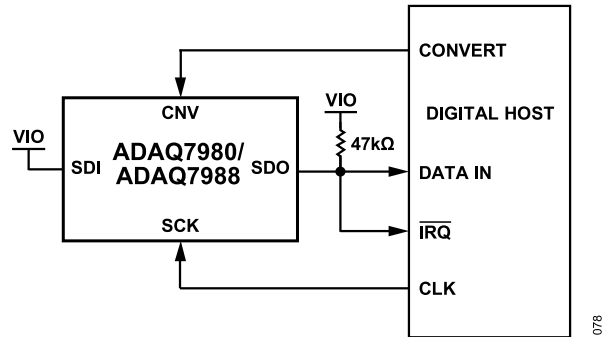
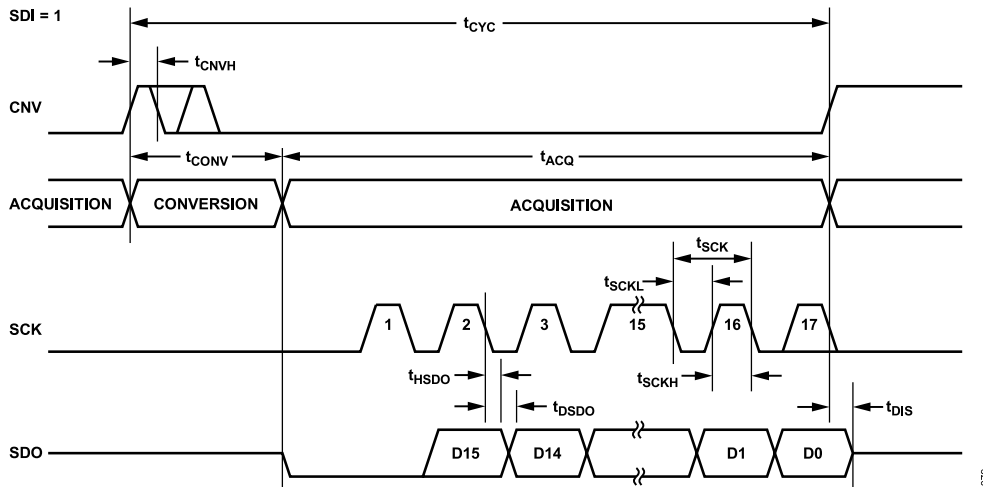
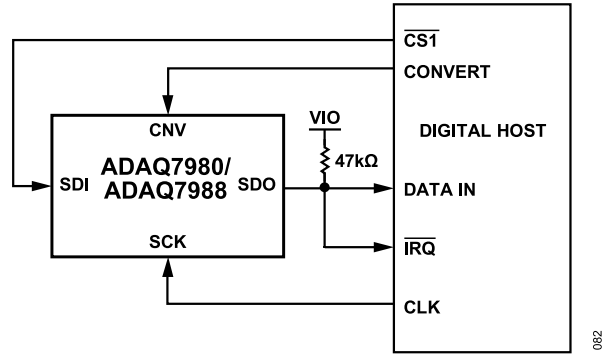
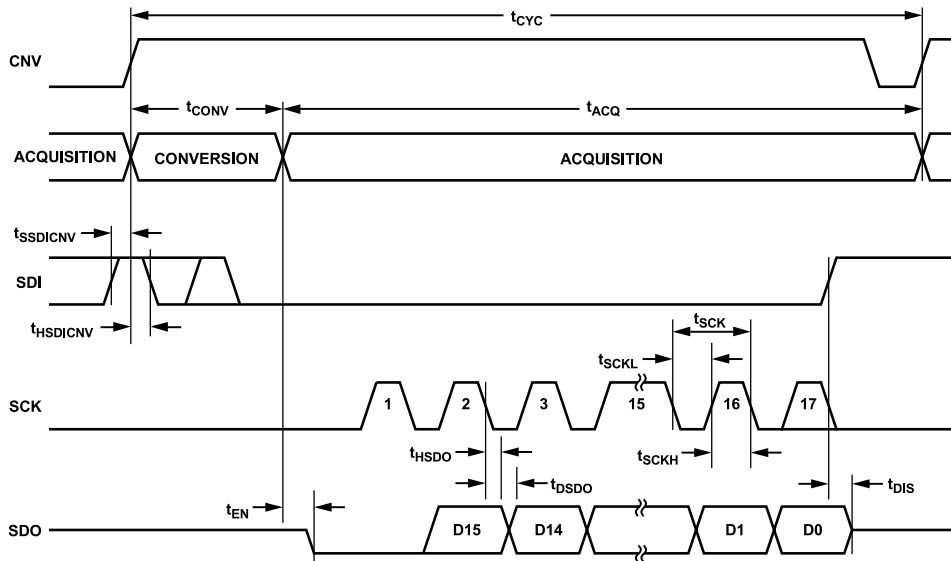

Figure 73. 3-Wire \overline{CS} Mode with the Busy Indicator Connection Diagram (SDI = 1, High)
Figure 74. 3-Wire \overline{CS} Mode with the Busy Indicator Serial Interface Timing (SDI = 1, High)
Figure 77. 4-Wire \overline{CS} Mode with the Busy Indicator Connection Diagram
Figure 78. 4-Wire \overline{CS} Mode with the Busy Indicator Serial Interface Timing
- ▶ In \overline{CS} mode if CNV or SDI is low when the ADC conversion ends (see Figure 74 and Figure 78).
Figure 73 shows the connection diagram, and Figure 74 shows the corresponding timing.
Figure 77 shows the connection diagram, and Figure 78 shows the corresponding timing.